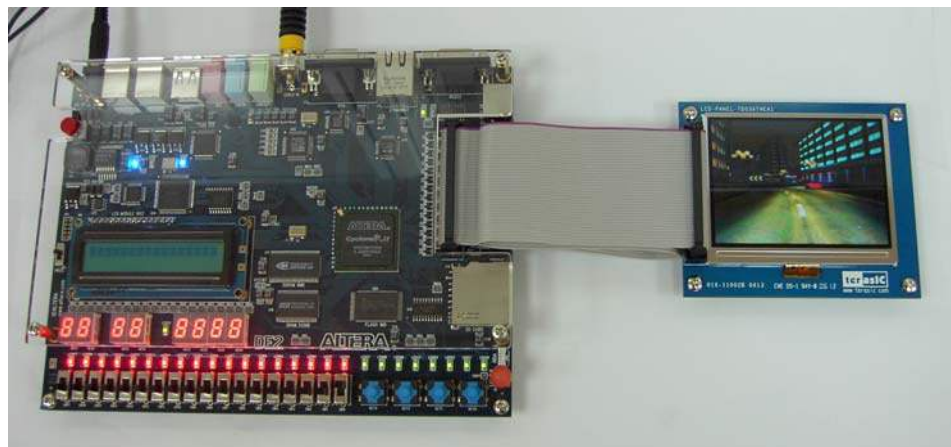

Figure 3.2. The connection setup for the TV player demo
1. Ensure the connection is made correctly as shown in Figure 3.2. Make sure the IDE cable is connected to JP1 of the DE2 board.